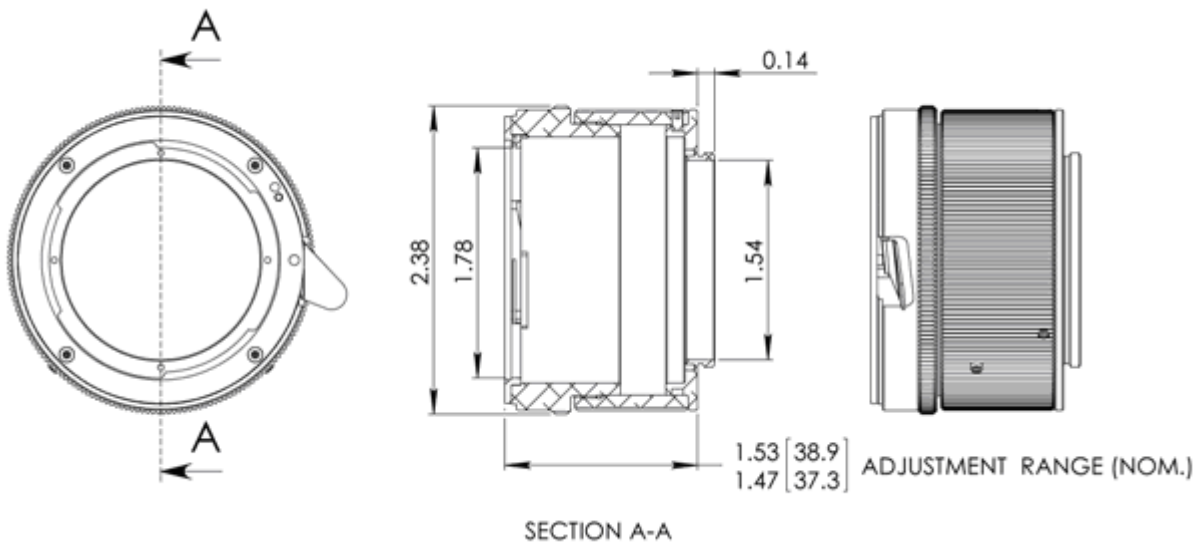
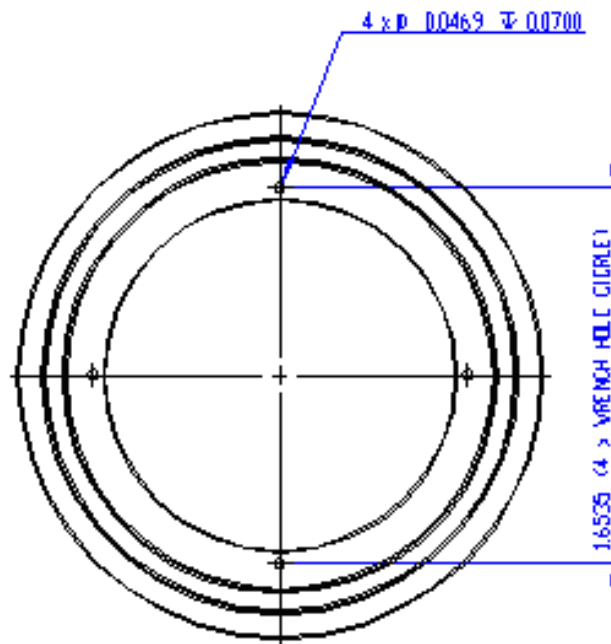

Figure 3. KT to Nikon F-mount lens adapter – part #8000-0194.
Figure 4. Drawing of adapter panel ring showing spanner holes.
- 4.6 Remove the camera's protective covering from the front plate and gently thread the adapter fully into the plate until the piece begins to seat. Using finger pressure on the outer rim of the M42 panel piece only (threaded piece shown in Figure 3), seat it firmly into the camera. If a two-point spanner wrench is available, remove the lens and look through the adapter from the lens side to see the four holes in the M42 panel piece that threads into the camera (see Figure 4). Adjust the spanner wrench to the spacing shown and firmly tighten the adapter to the camera using the wrench.